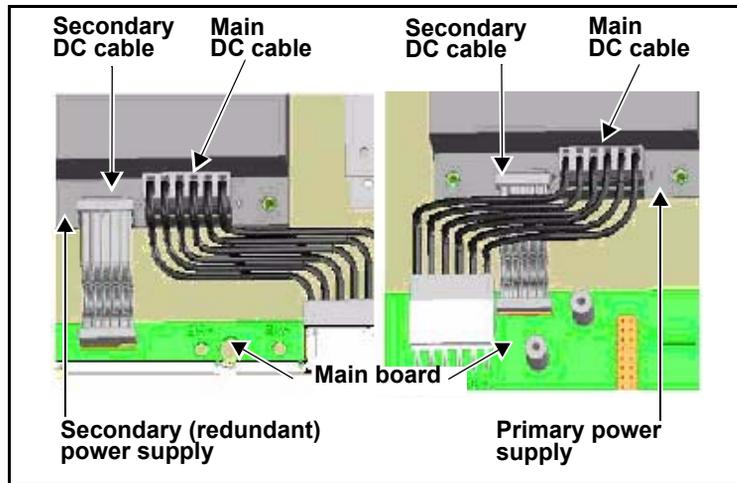

Figure C-47. Connecting DC and Ribbon Cables
3. Connect one end of the main DC power cable and the secondary DC ribbon cable to the main board, and the other end of each cable to the power supply. (See Figure C-47.)